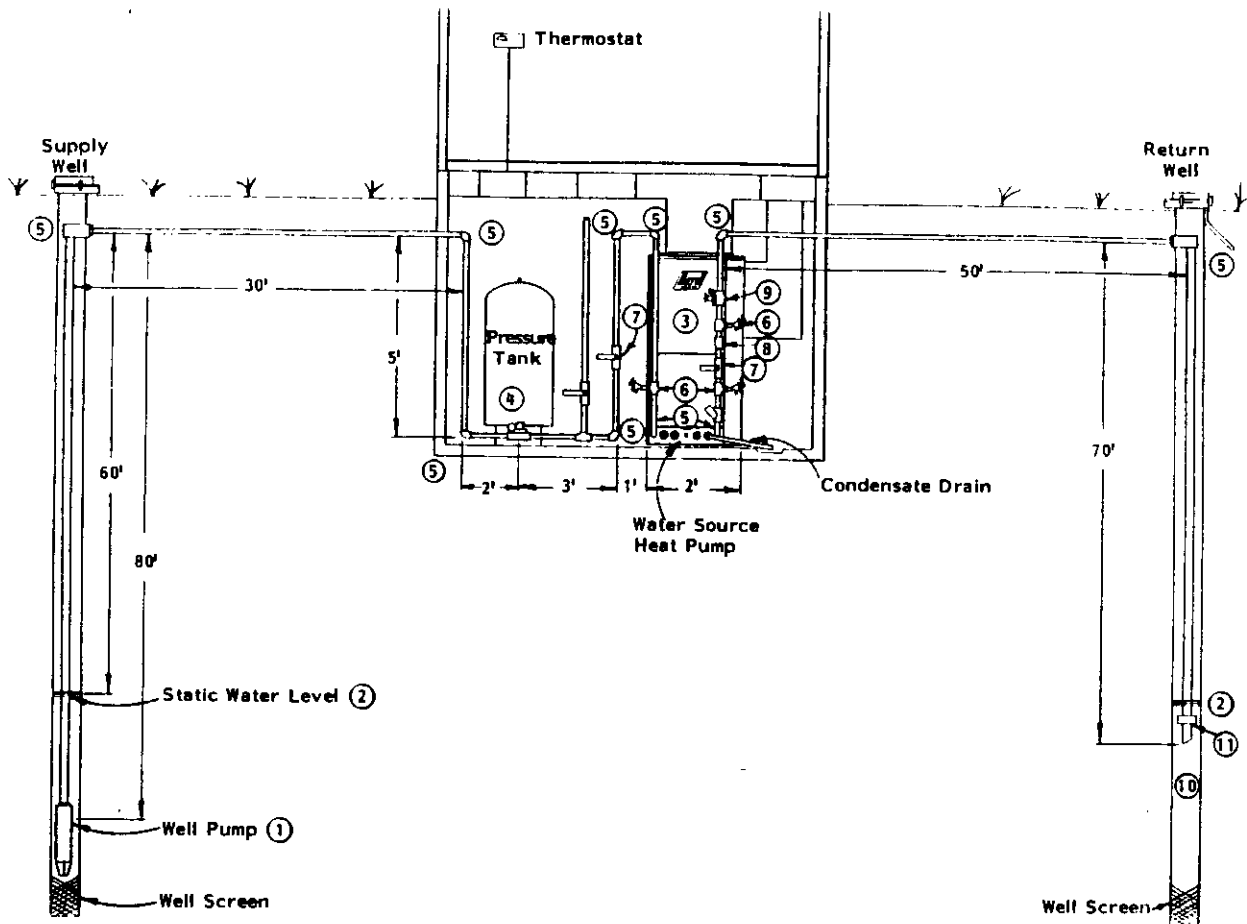

Figure 7. TYPICAL RETURN WELL SYSTEM
**PIPE SIZING EXAMPLE:** To properly size the piping in a ground water heat pump system, first draw a schematic diagram of the system (Figure 7), including all pipe lengths, valves, elbows, and other fittings. The important parts of the system in this example, numbered 1 thru 11 below are:
2. Pump level (PL) - water level in well when pump is operating = 60 ft. (supply)  below level
The following is an example of sizing the piping, pump and pressure tank for the system in Figure 7 using the "Water System Worksheet," Form 1001.